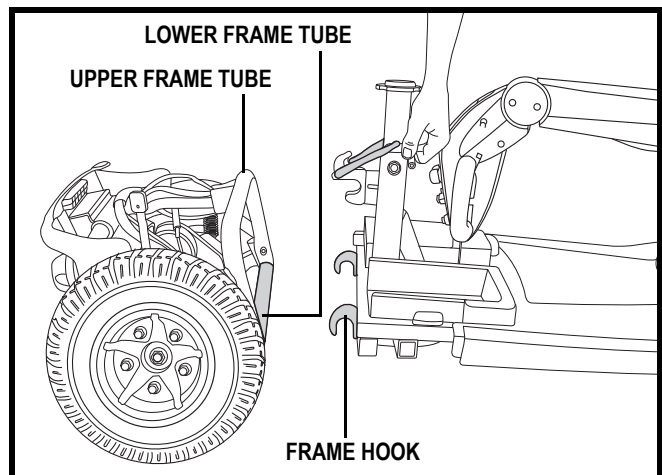

Figure 24. Frame Separation
3. Lift the front section up until the frame hooks of the front section separate from the rear section. See figure 24.
**NOTE:** Stabilize the rear section with your free hand by holding onto the upper frame tube. See figure 24.
4. Slowly separate the two sections. See figure 24.
1. Position the front and rear sections of your scooter as shown in figure 24.